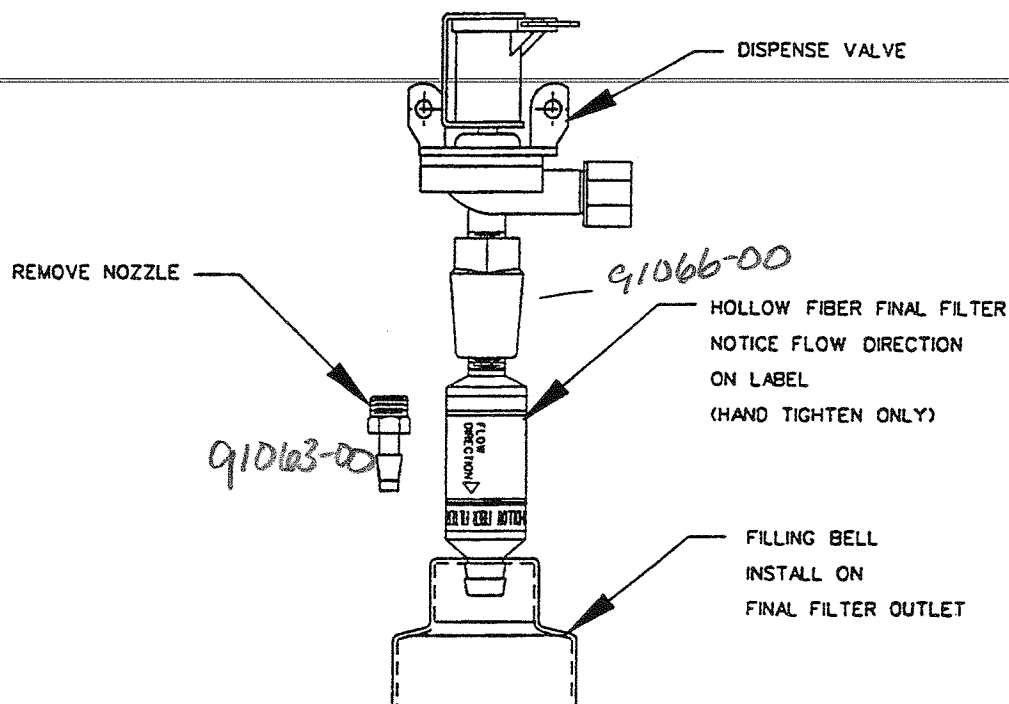

Figure 7
- (2) Place a suitable container or a hose that goes to a drain over the dispense valve or dispense gun nozzle and SLOWLY open the inlet supply valve.
- (3) Plug the unit into an electrical outlet and turn the power switch on.
- (4) If the optional filter P/N 9092900 has been ordered, remove it from its plastic bag and thread it into either the dispense valve or the gun. The nozzle on the valve or gun must be removed before installing hollow fiber final filter. Orient filter as shown on label. **HAND TIGHTEN ONLY.** Reference Figure 7.
- (5) Install the optional filling bell P/N 9044100 by pushing it into the final filter outlet. Filling bell will only fit over the final filter outlet when installed on the dispense valve and will not fit on a final filter installed on the gun. Reference Figure 7.